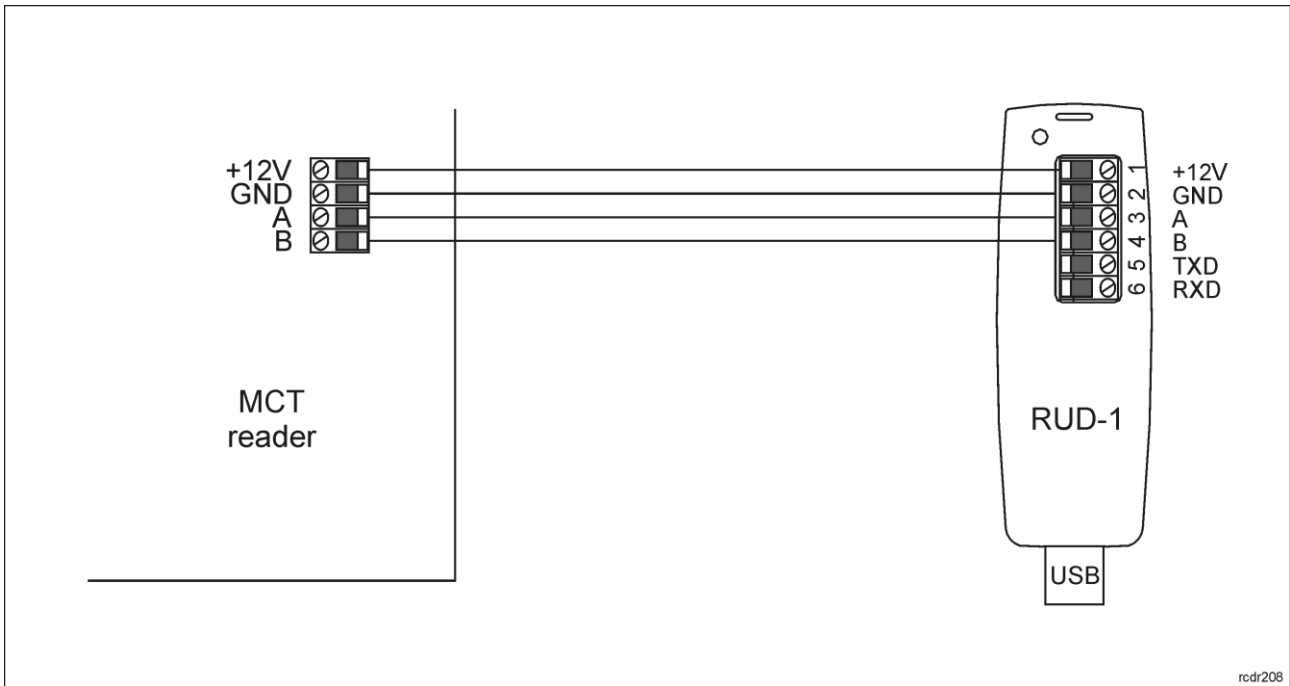

Fig. 8 Connection to RUD-1 interface
1. Connect the reader to RUD-1 interface (fig. 8) and connect the RUD-1 to computer's USB port.
The update requires connection of reader to computer with RUD-1 interface (fig. 8) and starting RogerISP software. The latest firmware file is available at www.roger.pl.